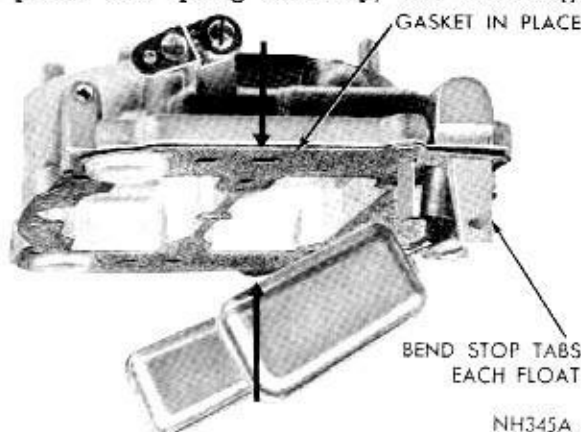

Fig. 12—Checking Float Drop
(1) Holding air horn in an upright position, measure distance from the top of floats (outer end) to the air horn gasket, (Fig. 12). This measurement should be 3/4 inch. If an adjustment is necessary, bend stop tabs on float levers until correct drop setting has been obtained. Bend tab toward needle seat to lessen drop, or away from seat to increase drop.
(2) After floats have been checked and adjusted, continue to assemble carburetor as follows:
(3) Place accelerator pump plunger lower spring in pump cylinder, then lower air horn carefully down on main body. Care must be taken to center small brass main bleed tubes so that they will pass through holes in air horn without being damaged. **Be sure the fuel baffles on the air horn, slide down in front, (bowl side) of the float chamber baffles, or the air horn will not index correctly with the main body and can cause the floats to hang up. Be sure the leather on the plunger does not curl or wrinkle. Accelerator pump operation will be affected if this precaution is not observed. Install dashpot (if so equipped).**
(4) Install 10 air horn attaching screws and tighten securely. (The two long screws should be installed in holes that are located at air cleaner mounting surface. The 1 inch screw at front and 1-1/2 inch at rear.)